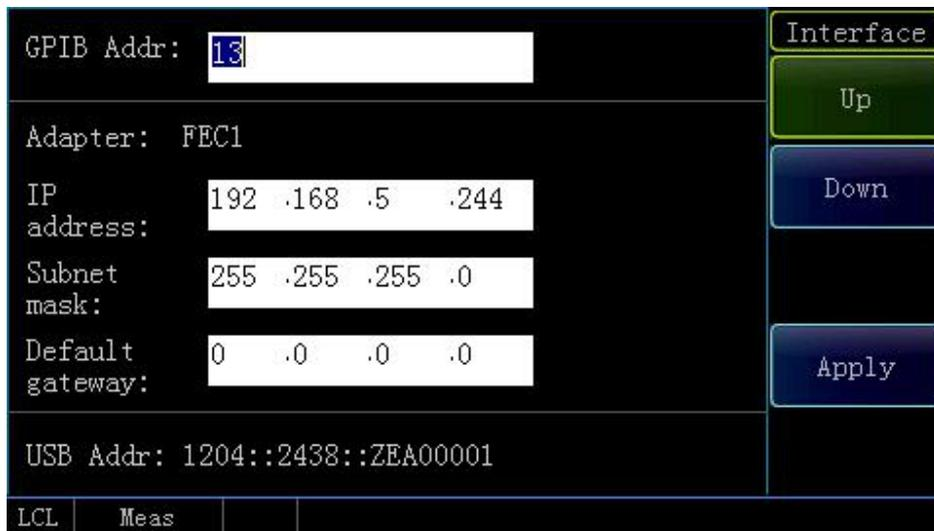

Fig. 2.8 Remote control interface configuration interface
Step 1. Press [Menu] > [Remote Control Interface] on the front panel to enter the interface configuration menu as shown in Fig. 2.8;